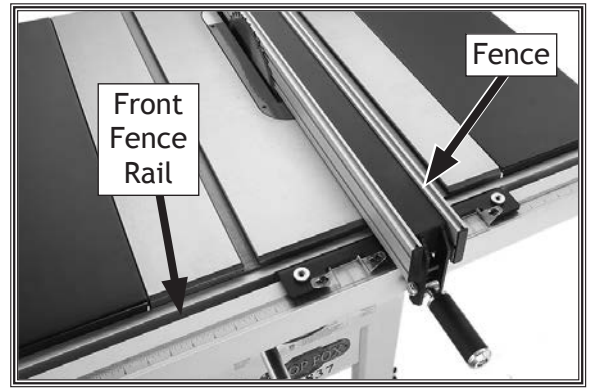

Figure 27. Fence installed on front rail.
18. Place fence on front fence rail, as shown in **Figure 27**. Press handle down to lock fence in position.